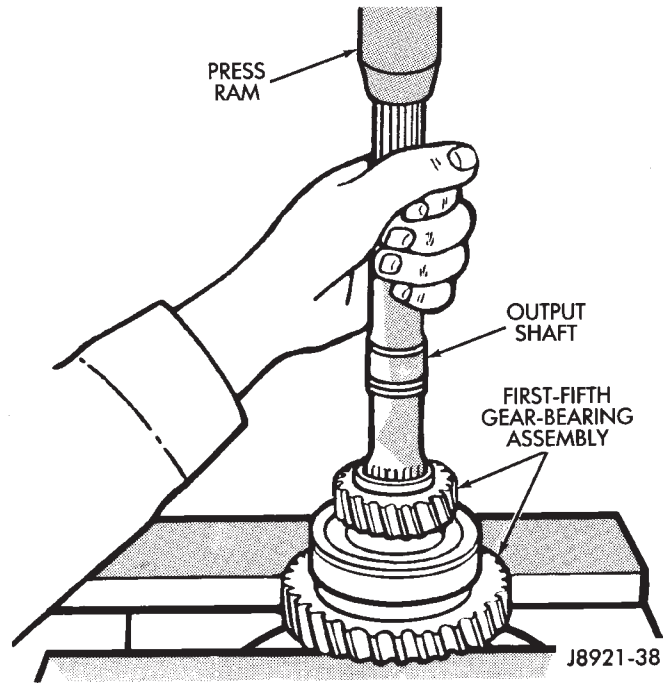

Fig. 30 Removing Fifth Gear And First Gear Bearing And Race
(14) Press fifth gear, rear bearing, first gear and inner race off output shaft (Fig. 30).